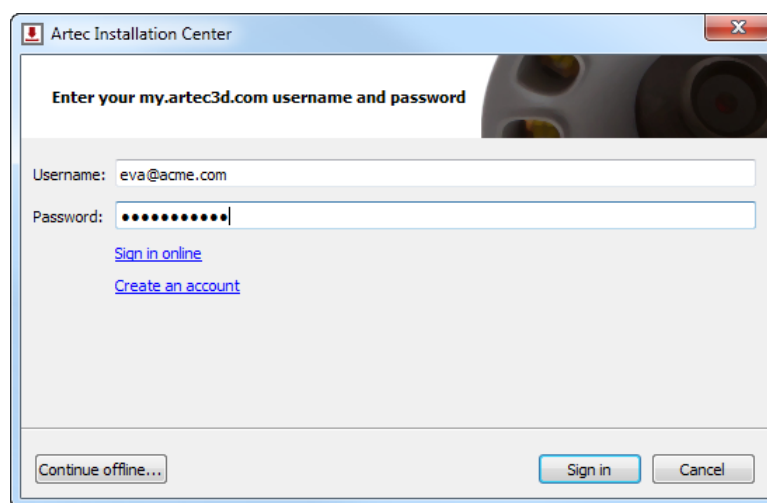

Figure 10: Authentication for Artec Installation Center
2. After downloading, open the folder that contains the executable and run it. Follow the instructions on the installation screens. Once Artec Installation Center is installed, you will see a dialog requesting your email address and password. Use your *my.artec3d* account to log in as Figure 10 shows.
If you have yet to install Artec Installation Center, a login dialog will appear, as Figure 10 shows. If you are not connected to the Internet, consult Offline Activation regarding offline activation of Artec Studio.